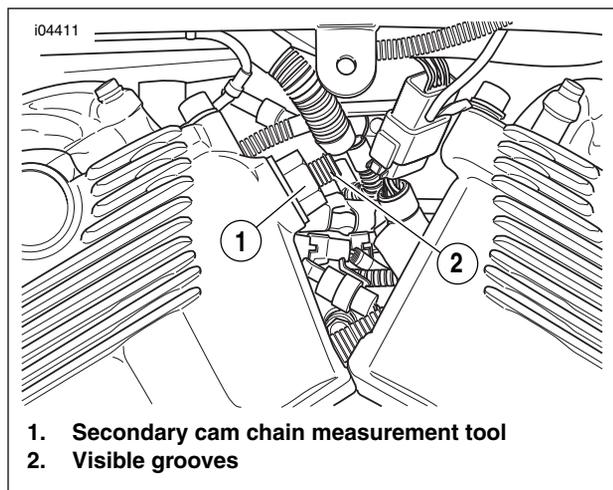

Figure 1-89. Secondary Cam Chain Measurement Tool Installed in Front Cylinder
11. See Figure 1-89. install SECONDARY CAM CHAIN MEASUREMENT TOOL. Thread-in the tool until it is seated against the cylinder head.
22. See Figure 1-89. Remove rear cylinder secondary cam chain tensioner and install SECONDARY CAM CHAIN MEASUREMENT TOOL. Thread-in the tool until it is seated against cylinder head.